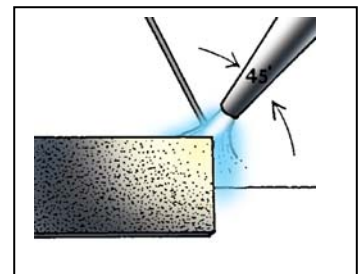

Figure 4
22. At the same time, use the other hand to bring the welding rod close to the flame for preheating. The end of the rod should be approximately 3/8 in. from the flame and 1/16 to 1/8 in. from the pool surface. The rod is held at an angle to the work, usually about 45 degrees. Refer to Figure 4.